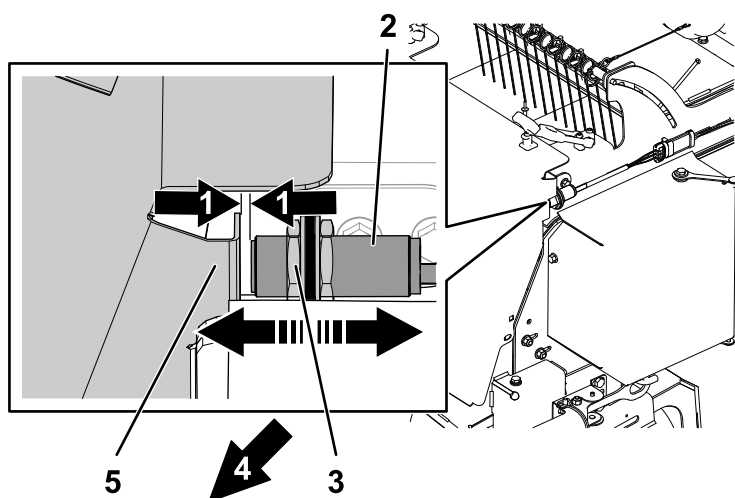

Figure 10
8. Adjust the clearance between the sensor and the hopper door to 3 mm (1/8 inch) as shown in Figure 10 using the adjustment nuts. The gap should be no wider than 6 mm (1/4 inch).